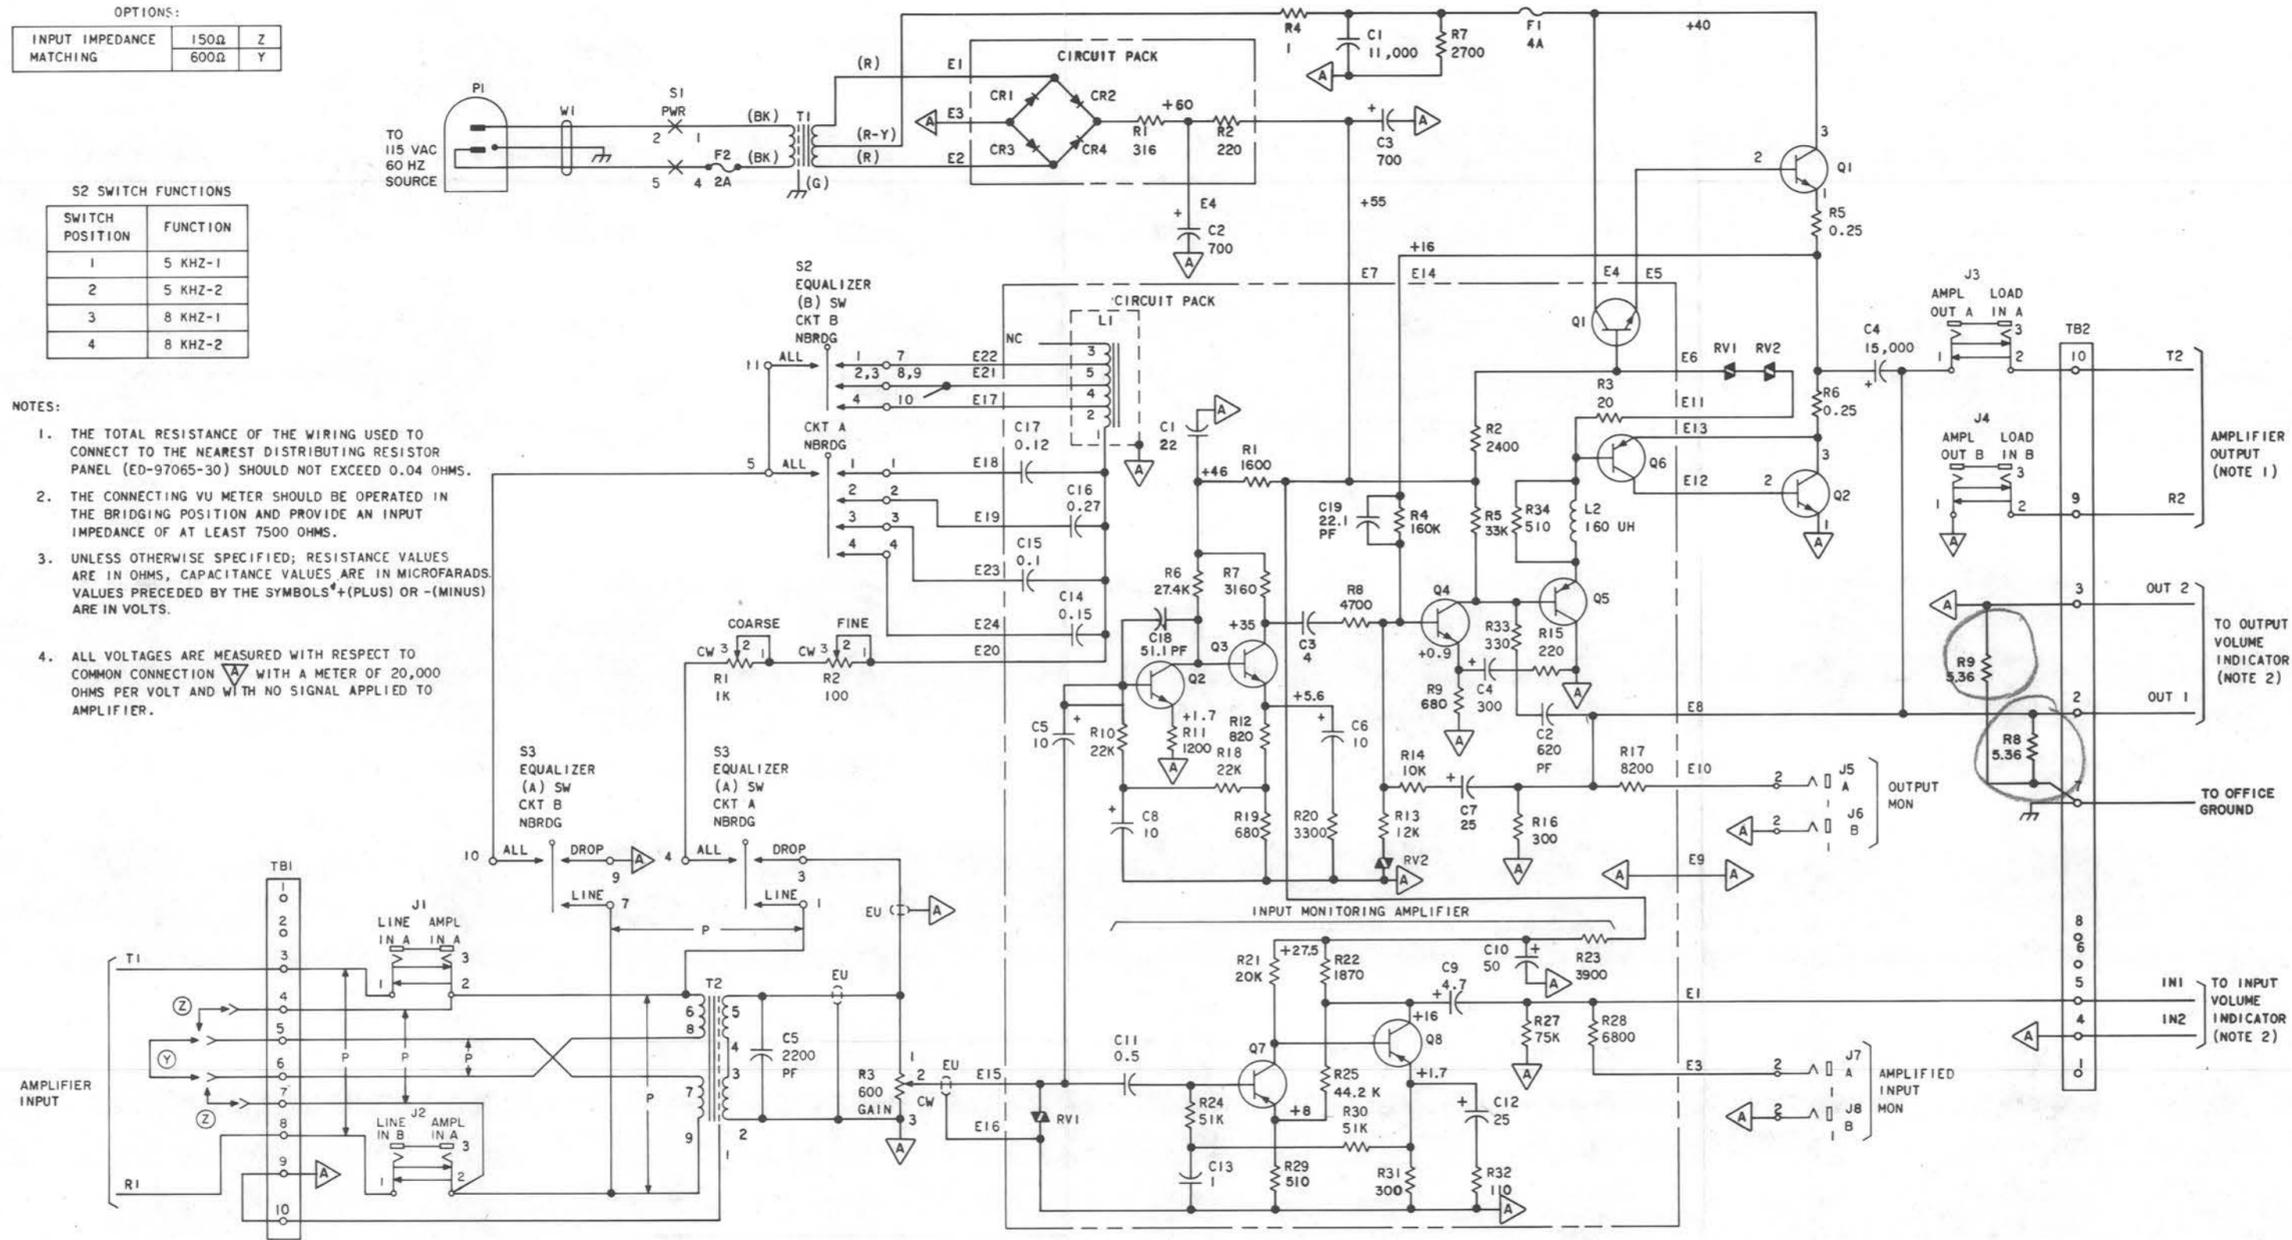

Fig. 6—Schematic of KS-20425 L2 Amplifier System
2.03 External connections and strapping to the KS-20425 L2 should be made to TB1 and TB2, located on the rear of the amplifier as shown in Fig. 6.